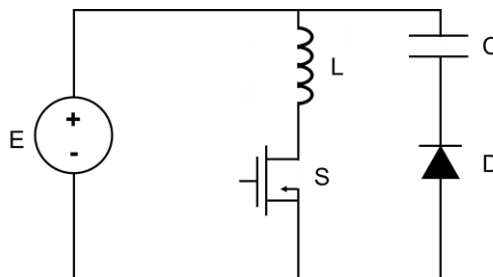

Figure 1: Simplified Circuit
Figure 1 shows a simplified DC/DC converter circuit. This example includes a power source (E), inductor (L), switch (S), diode (D), and capacitor (C), but many converter diagrams are more complex and have additional components.